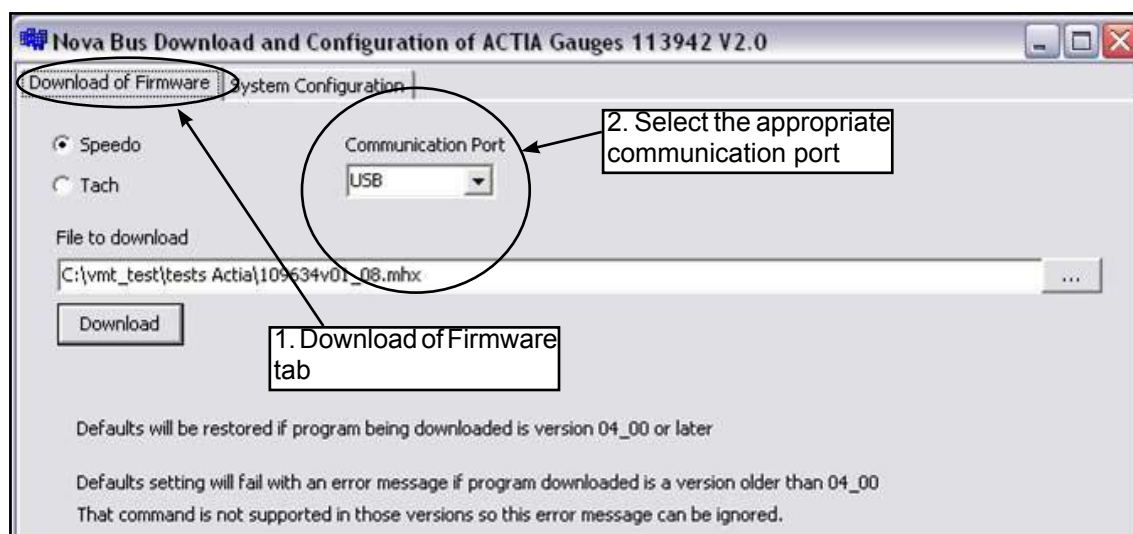

Figure 11 - Select the Appropriate Communication Port
3.1.6 In the Download of Firmware tab, select the appropriate communication port from the drop-down list (see Figure 11).